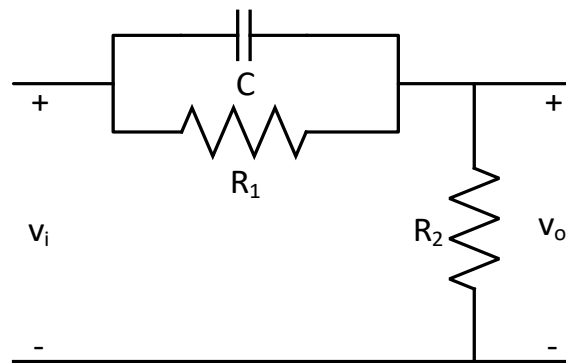

Figure 3 - Compensation Circuit
- Consider RC circuit in Figure 3. Obtain the transfer function  $G_c(s) = V_o(s)/V_i(s)$ .
18. Now that you have found the dominant pole of the measurement device, you are required to construct the circuit shown in Figure 3. You are given the capacitor value as  $C = 47\mu F$ . Using your preliminary work, and explanation provided at the last step of preliminary work, find the resistance values  $R_1$  and  $R_2$  to get the measurements twice as fast.